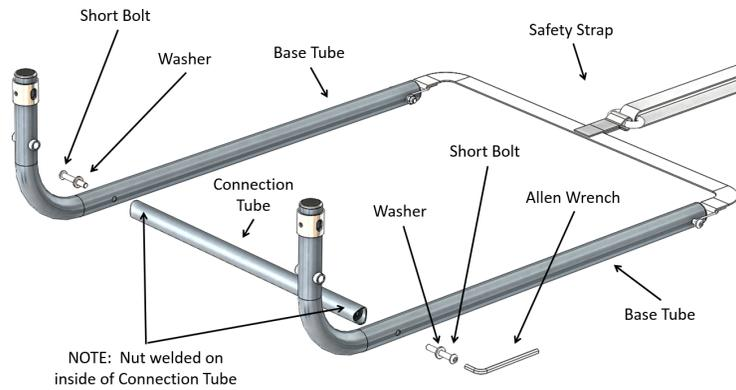
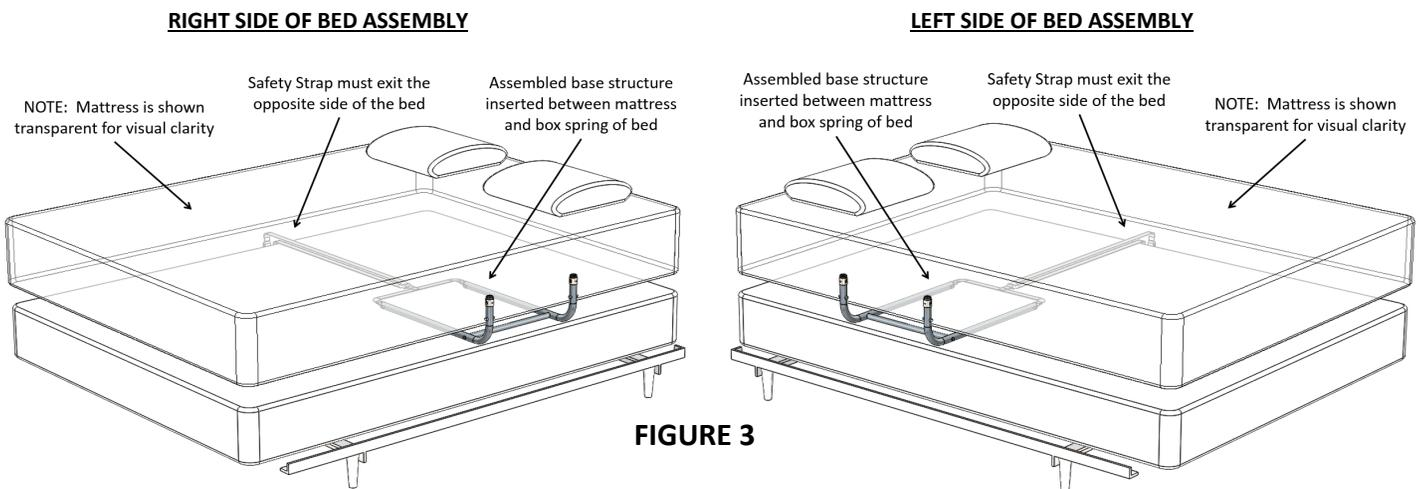

FIGURE 2
FIGURE 3
2. Use the Allen Head Wrench to attach the CONNECTION TUBE to the BASE TUBES using the SHORT BOLTS and WASHERS as shown in Figure 2. **NOTE:** Nuts are welded on inside of CONNECTION TUBE.
3. Determine which side of the bed to install the Bed Rail. Slide the assembled base structure from Figure 2, between the mattress and box spring of the bed as shown in Figure 3.